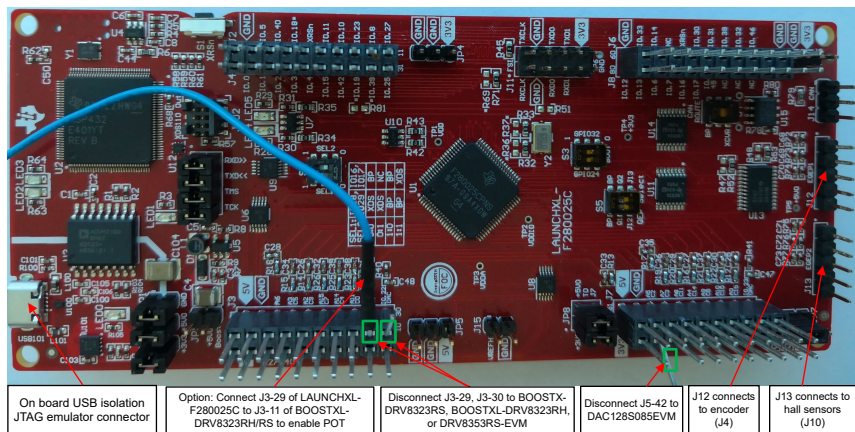

Figure 2-5. LAUNCHXL-F280025C Board Settings For Connecting BOOSTXL-DRV Board
- Make the J3-29, and J3-30 on **LAUNCHXL-F280025C** disconnect to **BOOSTXL-DRV8323RH** as shown in **Figure 2-5**.
The switches and connections on LAUNCHXL-F280025C as shown in Figure 2-5 are fit for BOOSTXL-DRV8323RH, BOOSTXL-DRV8323RS, and DRV8353RS-EVM.
- Make the J3-29, and J3-30 on **LAUNCHXL-F280025C** disconnect to **BOOSTXL-DRV8323RS** as shown in **Figure 2-5**.
- Make the J1-17 (IDRIVE), and J1-19 (VDS) on **DRV8353RS-EVM** disconnect to **LAUNCHXL-F280025C** as shown in **Figure 2-5**.